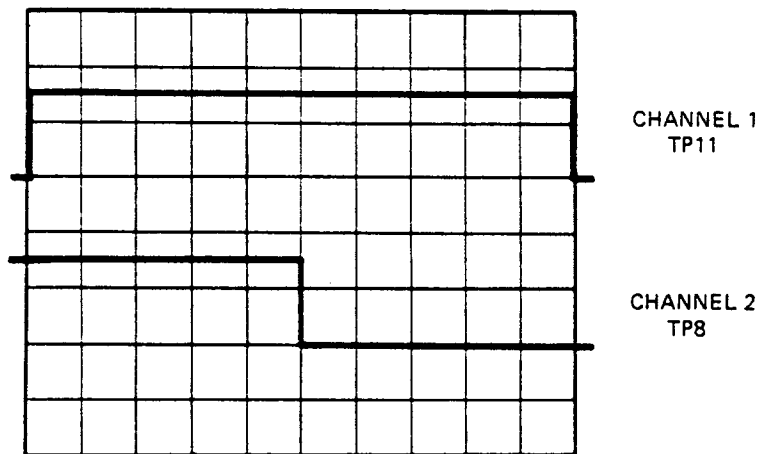

Figure 6-18. Quadrature Relationship Between Sector Phase-Lock-Loop Square Waves
The sector phase-lock-loop adjustment establishes the correct relationship between the phase-lock-pulse signal and the Voltage Controlled Oscillator (VCO) countdown signal. This relationship is shown in Figure 6-18.
- (1) Adjust Channel 1 trigger to display the low-to-high transition waveform. Adjust the sweep rate and horizontal position controls to position the leading and trailing edge of the waveform exactly 10 divisions apart. Refer to Figure 6-18.
- (2) Observe the waveform on Channel 2. The high-to-low transition should occur at the center vertical graticule line with  $\pm \frac{1}{2}$  of a major division. Refer to Figure 6-18.
- (1) Adjust the Sector Phase-Lock-Loop centering potentiometer R57 to position the high-to-low transition of the waveform on Channel 2 (TP8) to the center vertical graticule line.
- (2) Refer to Figure 6-18 for the correct positioning of the waveform